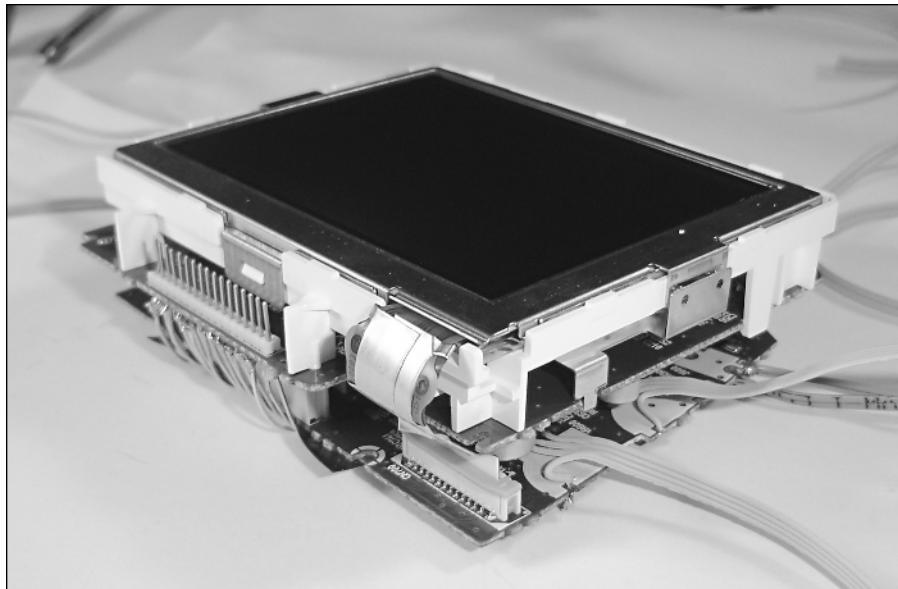

FIGURE 4-19: The completed modification of the EV-680.
5. Hold the sides together using a piece of electric tape. The resulting modification should appear as shown in Figure 4-19.